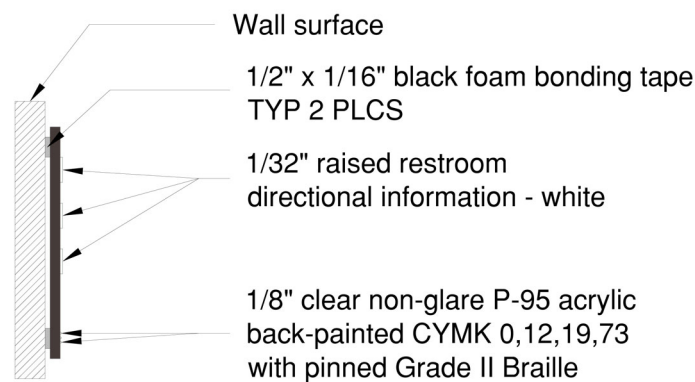

Figure 17.11
17.11. UMD D1.2 sign cross section shall comply with figure 17.11.